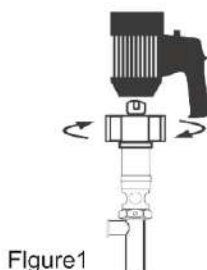

Figure1
- 3.Couple the electric motor to the pump using the hex nut (see Figure 1).